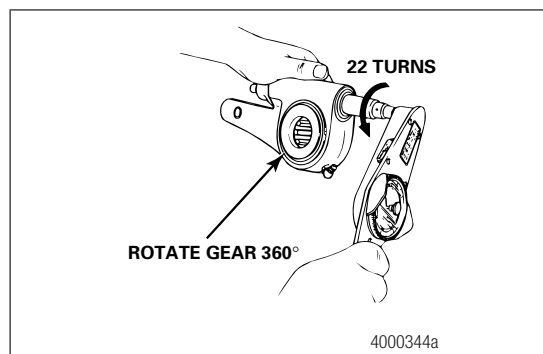

Figure 3.12
4. Check the slack adjuster gear torque. Use a lb-in torque wrench and turn the adjusting nut COUNTERCLOCKWISE (Figure 3.12) to rotate the gear 360 degrees, or 22 turns of the wrench, as you read the torque scale on the wrench. The value should be less than 45 lb-in (5 N•m) as you rotate the gear.